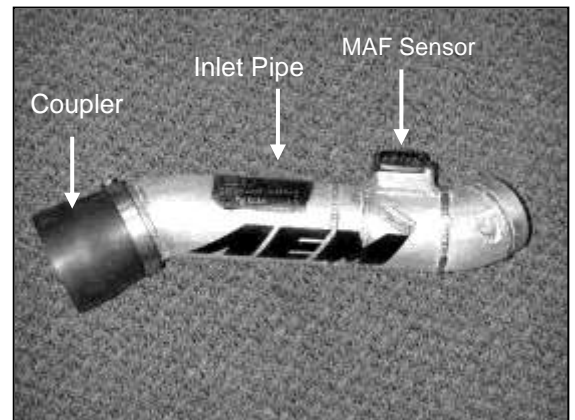

Fig. 14
- l. Using the screws removed in the previous step, install the MAF sensor onto the AEM® upper inlet pipe. The MAF sensor connector should be positioned as figure 14 illustrates. **(Fig. 14)**
- m. Install the reducer hose and hose clamp onto the intake pipe as fig 14 illustrates. The intake pipe should not protrude past the step inside of the reducer hose. **(Fig. 14)**